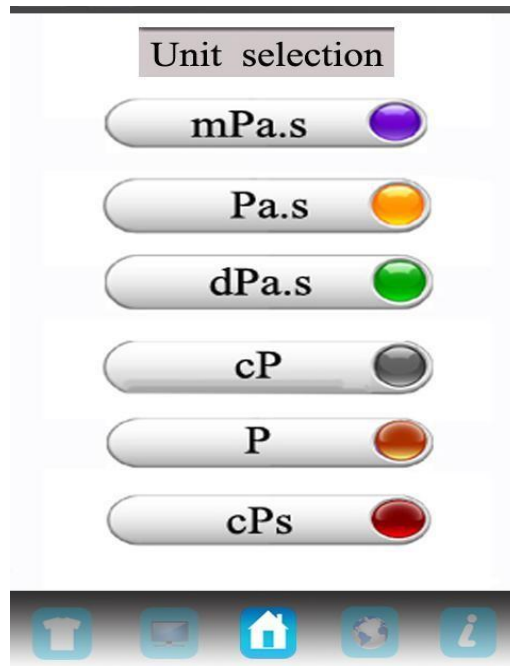

FIG.8
2. Unit: click the unit icon, as FIG. 8.